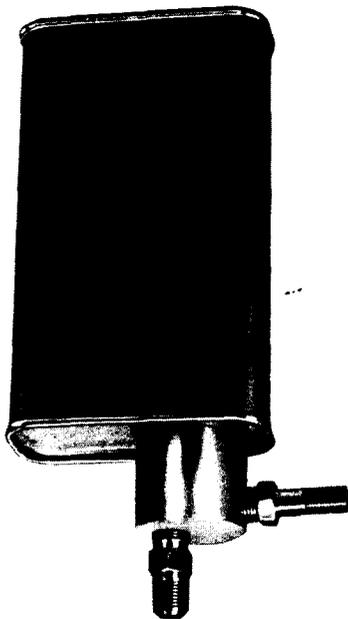
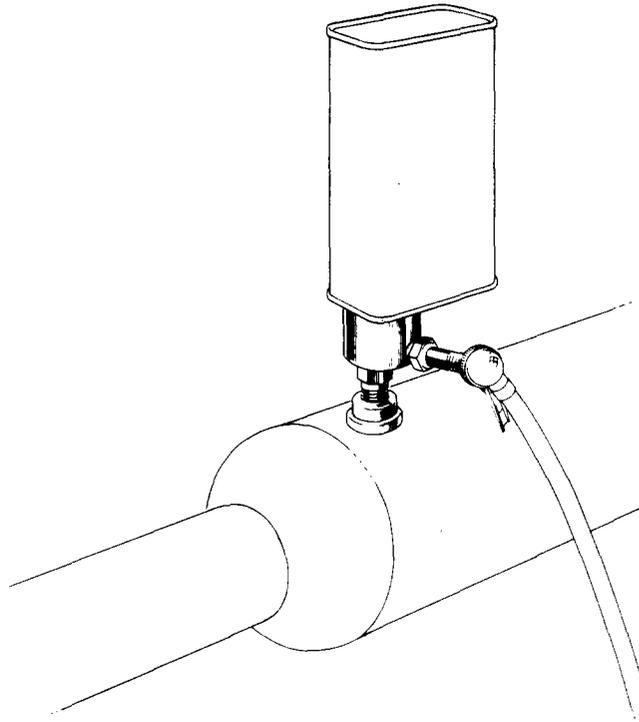

Fig. 2—B Desiccant Injector on 160-Gram Desiccant Dispenser
Fig. 3—Drying Splice Using the B Desiccant Injector
- (1) Remove the cap and seal from a 160-gram desiccant dispenser or from the 650-gram desiccant can which may serve as the dispenser.
- (2) Fill the 160-gram desiccant dispenser with desiccant as necessary.
- (3) Screw the injector onto the threaded top of the 160-gram desiccant dispenser (Fig. 2) or onto the 650-gram desiccant can.
- (4) Screw the injector into a C pressure flange or splice case pressure fitting.
- (5) Adjust the pressure regulator on the nitrogen cylinder to an outlet pressure of approximately 5 psi.
- (6) Connect the pressure hose chuck to the injector valve (Fig. 3) and the gas pressure will force the desiccant into the splice.